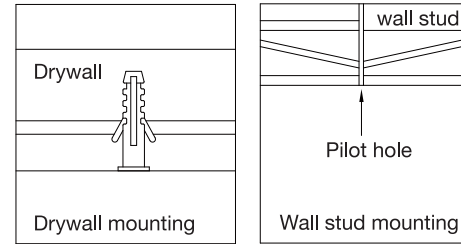

Figure 9
If the mounting holes go through wall studs, drill four small pilot holes using a 5/32" drill bit (not included) for the wood screws (CC). Install the four wood screws (CC) into the mounting surface but leave about a 3/8" gap between the screw head and mounting surface. (Figure 9)